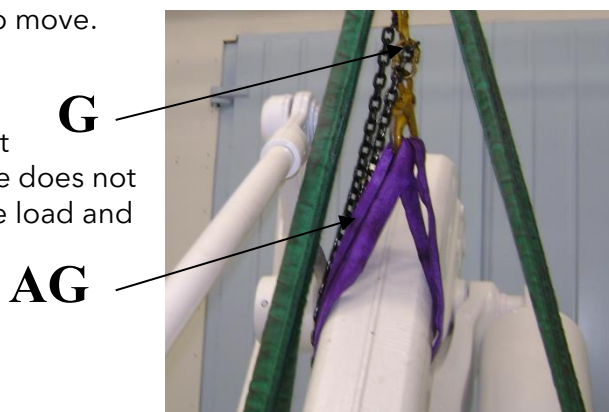

Figure 29. Securing the upper arm, IRB 760.
5. The robot's upper arm must always be secured with a 1 ton lifting sling (AG), see figure 29. The sling is guided through the front hole in the robot's upper arm.
6. Fit the lifting sling (AG) in the lifting hook as shown in figure 29. Ensure the lifting hook's safety latch is locked.